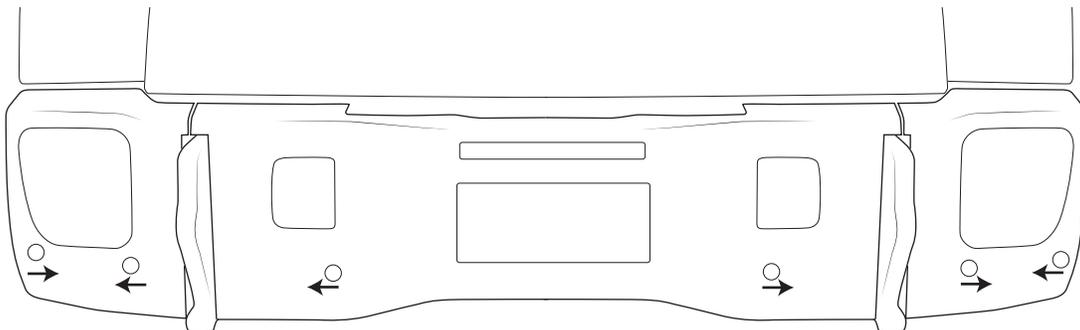

Figure 3
13. Install sensors into the bezels from the back side. Note the orientation of the sensors, the connector end should point in the directions shown (fig.3).